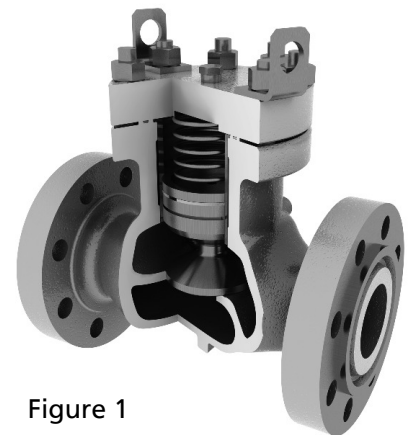
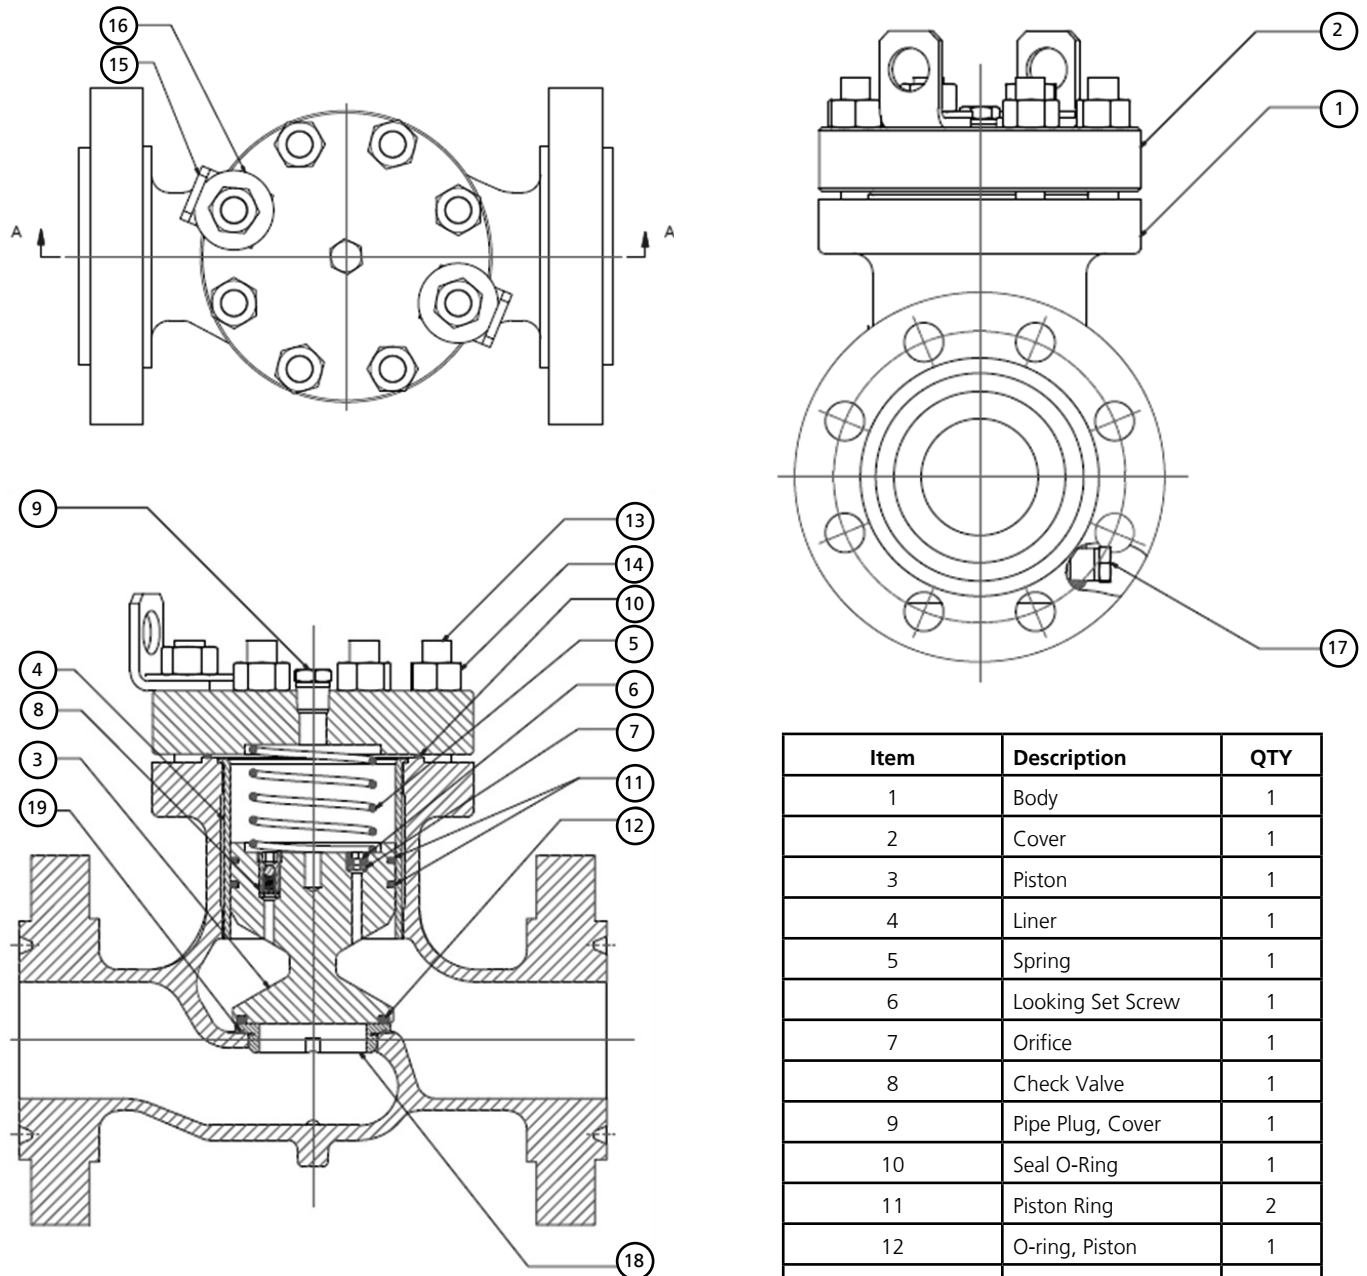

Figure 1
Figure 2
The Tom Wheatley piston check valve features a floating piston with an O-Ring seal. The cover is bolted to the body and sealed with an O-Ring. The cover includes a pressure relief vent plug (NPT threads). The valve is supplied with an integral seat (Figure 1) or a removable seat with an O-Ring (Figure 2).
- Remove seat (if applicable, Figure 2).
Reassemble the valve in accordance with the following instructions. See Figure 1 (See Figure 2 for valves with replaceable seats).
1. Install seat O-Ring, 18, into O-Ring groove of seat, 19 (Figure 2). A small amount of thick grease may be applied to O-Ring to hold in place during assembly of seat into body.
2. If applicable, thread seat into body, 1 (Figure 2) ensuring that seat is in full contact with body seating surface.